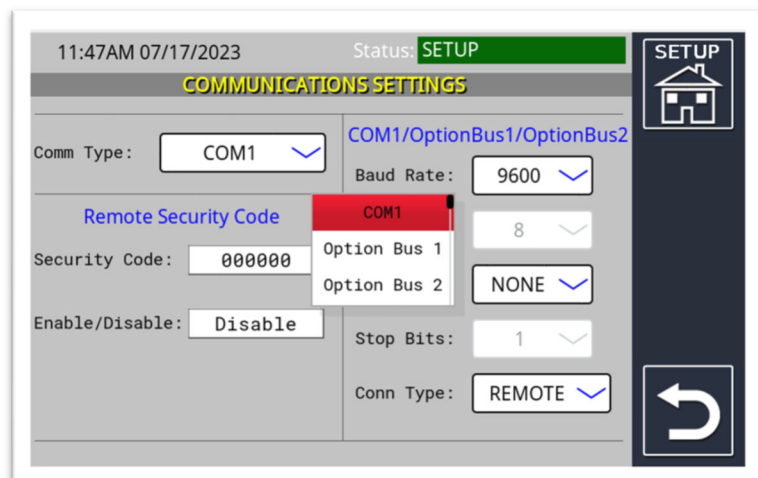

Figure 14.2
- Option Bus 2(See Figure 14.2)